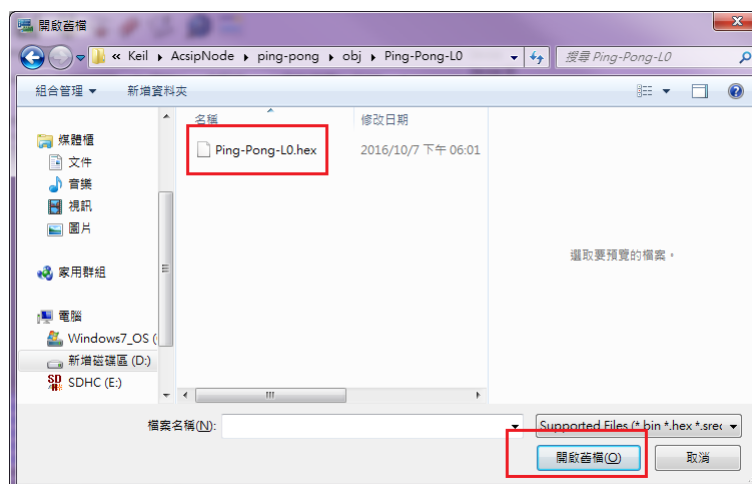

Figure 3.7
- 1) Click on **Target | Program...** (or **Target | Program & Verify...** if the user wants to verify the written data) to open the Open file dialog box, as shown in Figure 3.7. If a binary file is already opened, go to step 3.